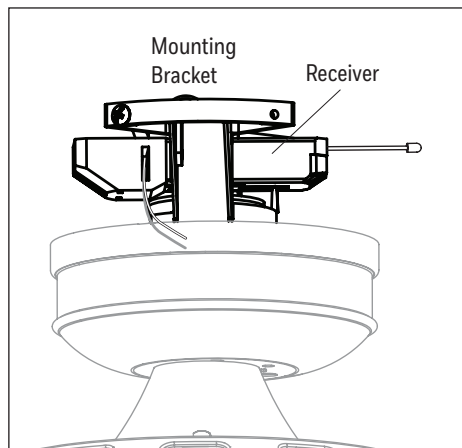

Figure 3.5
5. Connect the 3-pin connector from the downrod to the 3-pin connector from the receiver. Then, insert the receiver, antenna first, into the mounting bracket with the flat side facing the ceiling. **Note:** The receiver will rest directly on top of the downrod. (Figure 3.5).